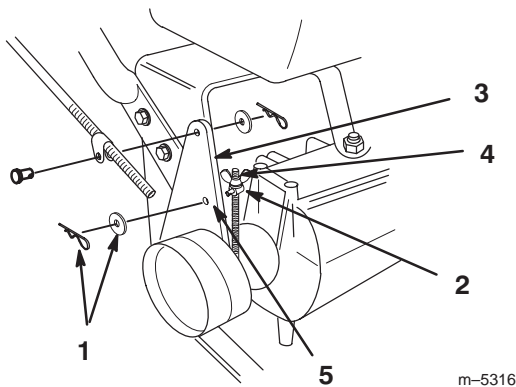

Figure 35
3. To adjust the brake remove the cotter pin and washer from the brake lever (Fig. 35).
4. Rotate the trunnion so it smoothly slides into brake lever hole "F" (Fig. 35). Tighten wing nut.
5. Secure trunnion to brake lever with washer and cotter pin (Fig. 35).